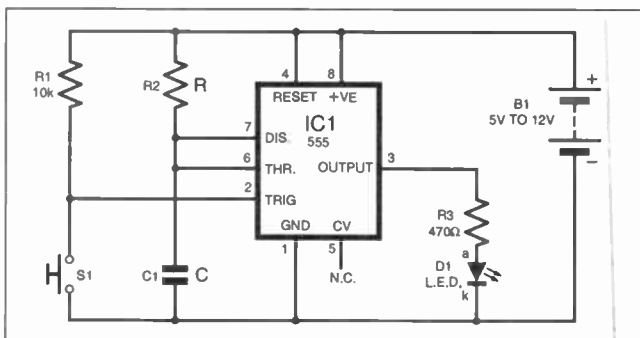

Fig.8.5. A 555 timer used in monostable mode.
Monostable circuits were looked at in Part 4, in which logic gates were used. The basic monostable arrangement using a 555 timer is shown in Fig.8.5. Resistor R1 can be any value from $1k\Omega$ to $1M\Omega$, its purpose is simply to keep pin 2 positive unless the switch (S1) is pressed. Resistor R2 (value R) together with capacitor C1 (value C) sets the period (T) for which the output is high, according to the formula:
Photo 8.3. Waveforms for the circuit shown in Fig.8.5.
The oscilloscope photograph in Photo 8.3 shows the results obtained with the circuit in Fig.8.5. When the circuit is stable, output pin 3 is at 0V, and discharge pin 7 is internally connected to 0V. When trigger pin 2 is connected to 0V for a moment (e.g. by pressing switch S1), output pin 3 goes high, and the discharge pin internally disconnects itself. Hence current flows through resistor R2 and charges capacitor C1, as shown in the lower waveform. Threshold pin 6 monitors this rising voltage, and at two-thirds of the supply voltage, pin 3 switches back to 0V and pin 7 internally connects to 0V again.